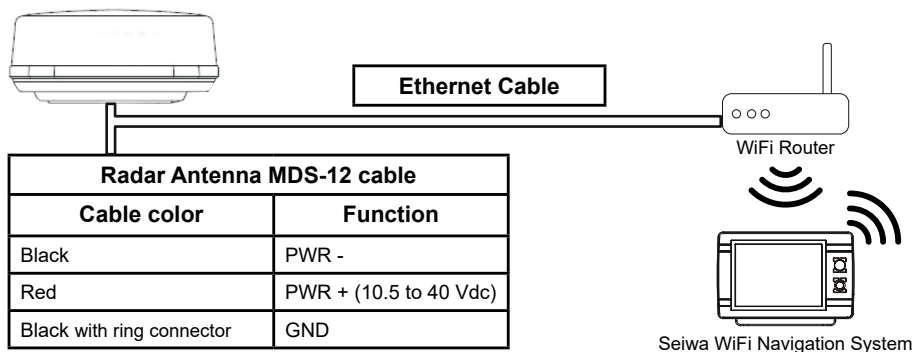

Figure 5.1
2. Connect the MDS-12 ethernet cable to the pre-configured WiFi router as shown on figure 5.1
3. Connect the radar MDS-12 to correct power source as shown on figure 5.1.